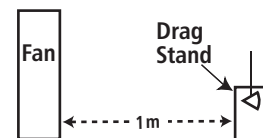

Figure 5
7. Measure 1 meter from the front center of the box fan and place drag stand at that point, making sure it is secured to the surface (figure 5).